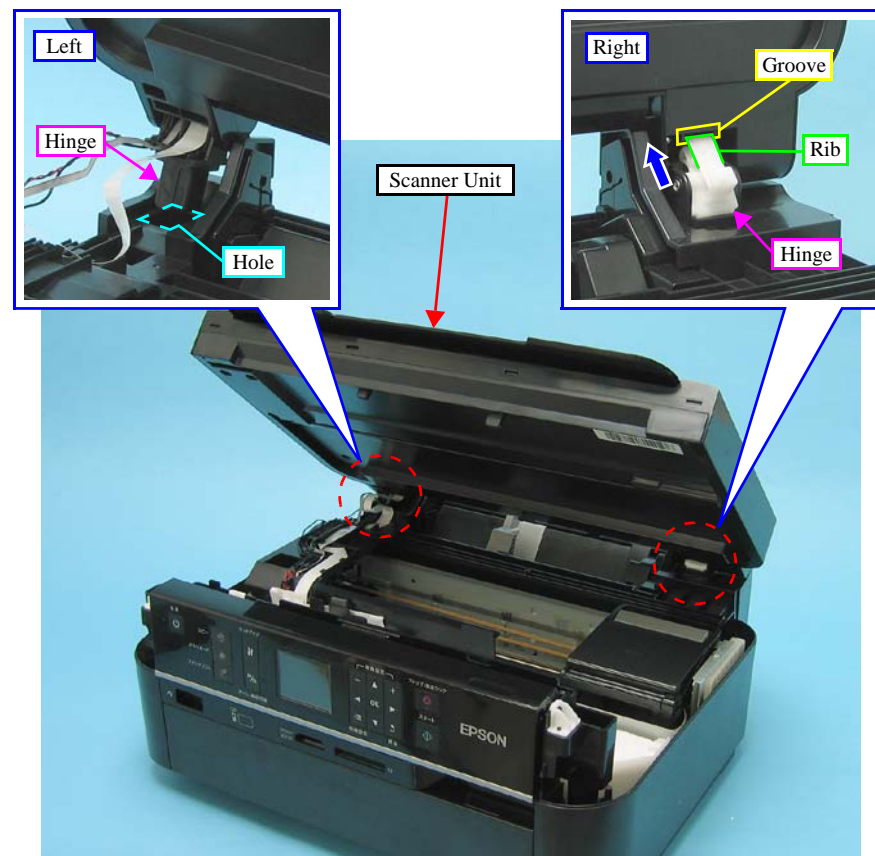

Figure 4-20. Removing the Scanner Unit (3)
7. While keeping the Scanner Unit open at 45 degrees, push it in the direction of the arrow as shown in Fig. 4-20 to remove the Scanner Unit from the right hinge.